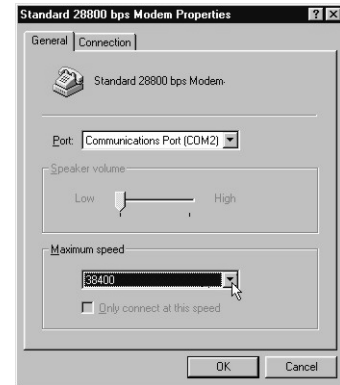

Figure 11 - Maximum Speed
9. From “Maximum Speed” area, select “38400”. (Fig. 11)